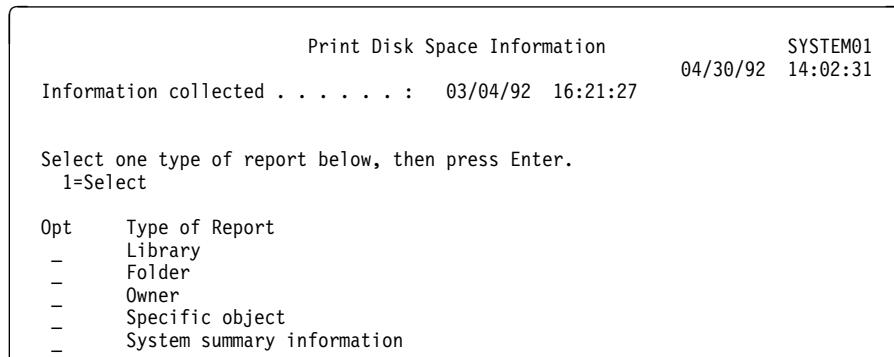

Figure 8-9. Print Disk Information Display
2. Select option 2 (Print disk space information) on the Disk Space Tasks (DISKTASKS) menu. Figure 8-9 on page 8-13 shows the Print Disk Space Information display.